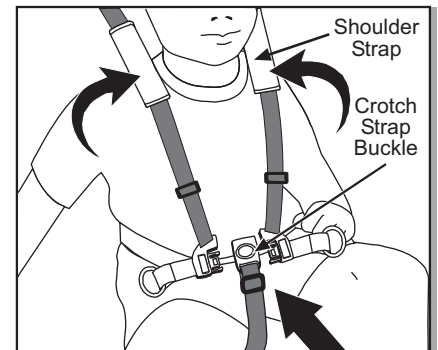

Fig. 19 Secure Shoulder Straps and Buckle.
- Place child in seat. Slip one shoulder strap over each shoulder. Position crotch strap between legs (Fig. 19).